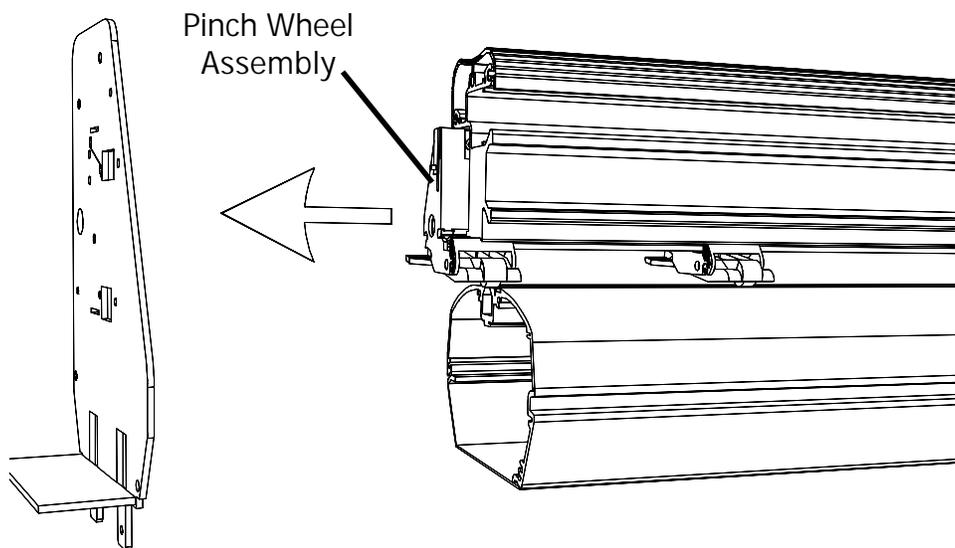

Fig. 7 - Left end plate removed
- 10) With the left end plate removed, lift the traverse extrusion up, and slide the pinch wheels off of the machine. *See Fig. 7*